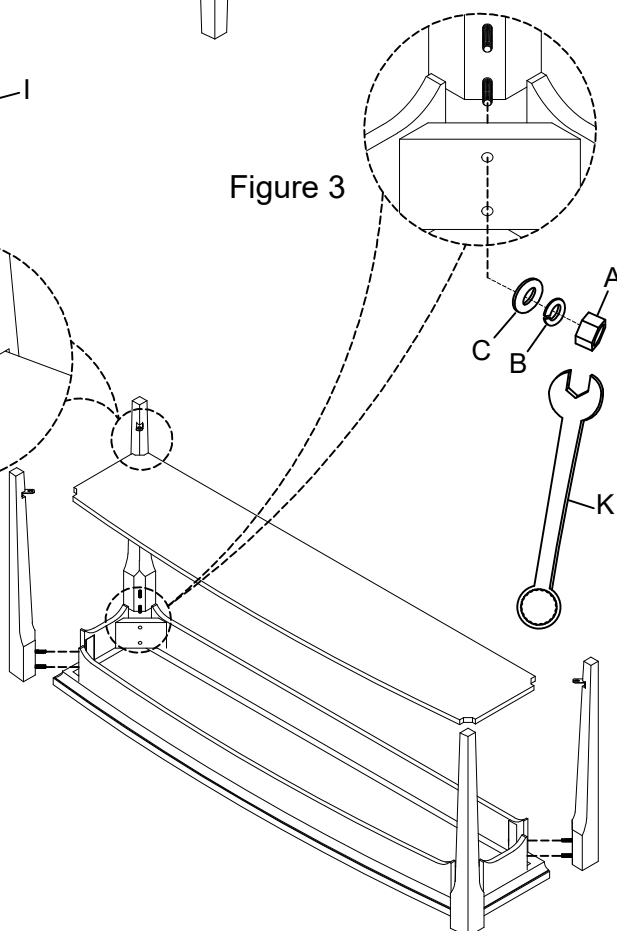

Figure 3
3. Attach the leg to table top using Hex Nut (A), Lock Washers (B) and Flat Washers (C). Tighten with Wrench (K). (See Figure 3).